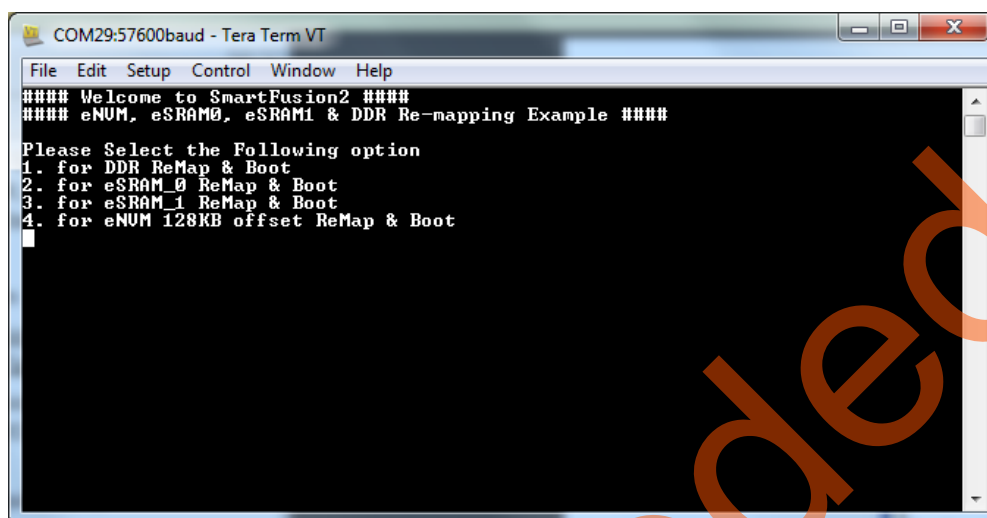

Figure 21 • Main Menu of the Re-Mapping Application Note
2. Figure 21 shows the Tera Term: